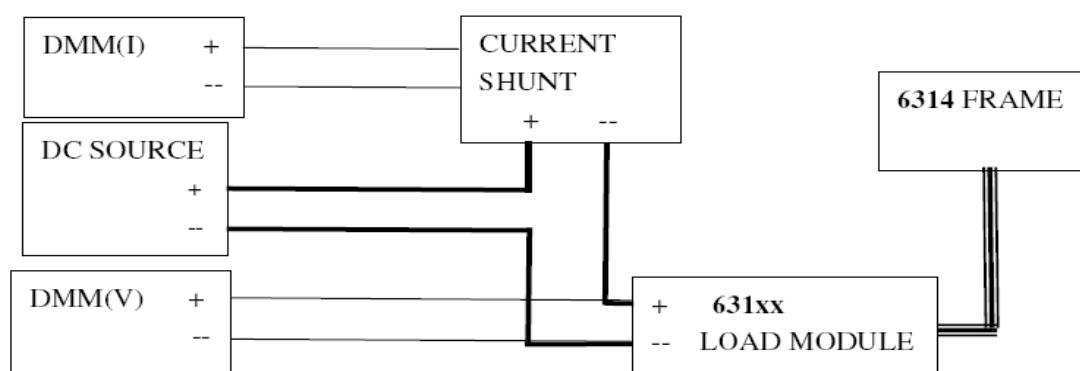

Figure 10-1
- A. Connect the Load module, DC source, DMM and current shunt as Figure 10-1 shows. Use DMM (V) to measure the voltage across the module's input terminal. Be careful in making connections so that contact resistance voltage drop will not affect the readings.